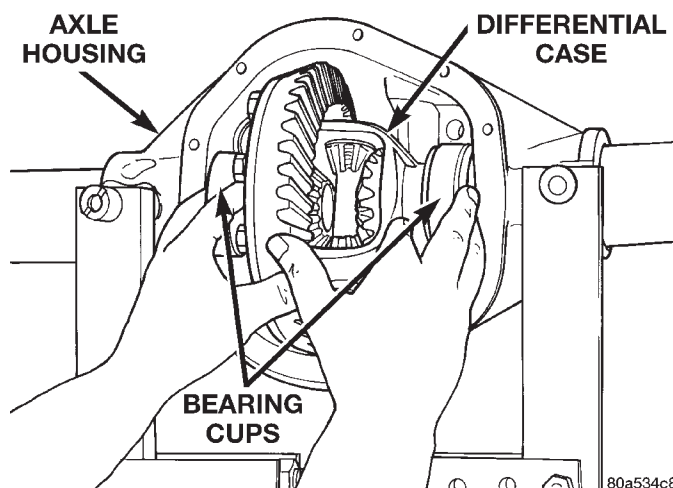

Fig. 31 Differential Case Removal
- (10) Remove the dial indicator.
- (11) While holding the differential case in position, remove the differential bearing cap bolts and caps.
- (12) Remove the differential from the housing. Ensure that the differential bearing cups remain in position on the differential bearings (Fig. 31).